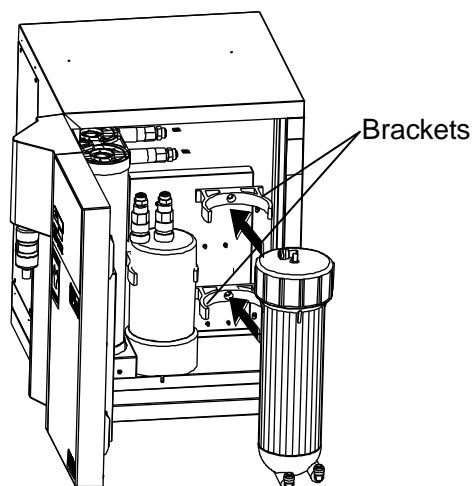

Figure 7
- Turn power off and close water tap before installing or replacing the reverse osmosis (RO) membrane.
- (1) Place RO membrane into designated brackets as shown in Figure 7.
- (2) Push tube marked, "RO IN" evenly into the upper coupler on RO membrane.
- (3) Push tube marked, "RO Left" evenly into lower left coupler on RO membrane.
- (4) Push tube marked, "RO Right" evenly into lower right coupler on RO membrane.